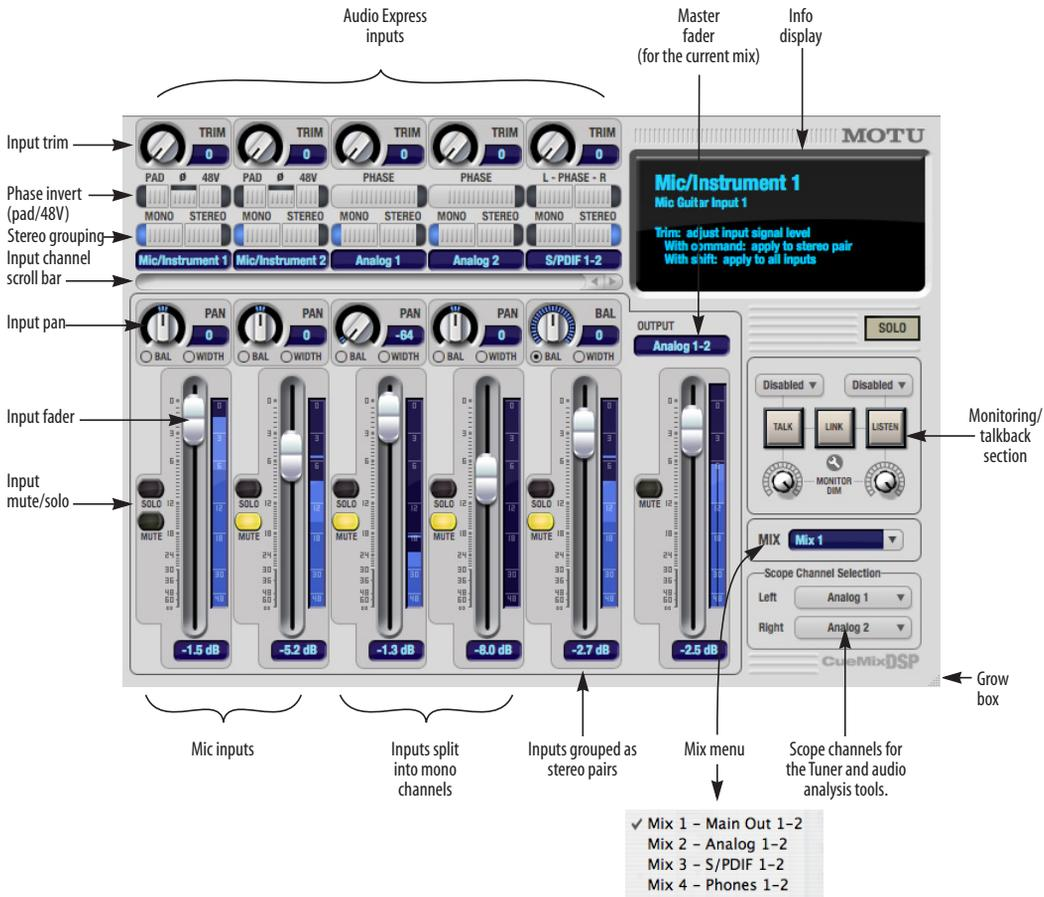

Figure 11-1: CueMix FX is a virtual mixer that gives you control over the Audio Express's on-board mixing features.
CueMix FX displays one mix at a time. To select which mix you are viewing, choose it from the mix menu (Figure 11-1). Click the mix name to change it. The mix output pair appears above the mix master fader (Figure 11-1).
To view more input faders at once, drag the grow box (Figure 11-1) to the right.
To view a mix, choose it from the *Mix* menu (Figure 11-1). The menu shows all mixes by name, followed by the audio interface's output pair that it corresponds to.
The master fader (Figure 11-1) controls the overall level of the mix (its volume on its stereo output). Use the individual input faders to the left to control individual input levels.
The mix mute button (Figure 11-1) disables (silences) the mix.
The *Inputs* section (Figure 11-1) gives you access to individual Audio Express inputs (or input pairs). Unmute the input and bring up its fader to hear the input on the current mix's output. Mute, solo, and pan are also provided for each input channel.
The *Phase* button (Figure 11-1) inverts the phase of the input signal. For stereo pairs, you can invert the phase for the left and right channels independently. For the mic/instrument channels, click the phase button ( $\emptyset$ ) repeatedly to cycle among two states for mono channels (on or off) and four states for stereo grouped channels (no inversion, left only, both, or right only).
Click the *Mono* button (Figure 11-1) if you would like an input to be treated as a mono channel. If you would like to work with it as one channel of a linked stereo pair, click the *Stereo* button. Inputs are grouped in odd/even pairs (Mic/instrument 1-2, Analog 1-2, etc.) Stereo pairs appear as a single channel strip in the CueMix FX mixer.
Click the input name at the top of the input channel strip (Figure 11-1) to edit the name. Input names are global across all mixes. This name also appears in host audio software on the computer (if the software supports channel names).
The pan knob (Figure 11-1) for each input pans the input across the mix's stereo outputs. If the input itself is grouped as a stereo pair, two forms of panning control are provided:
Use the input fader (Figure 11-1) to adjust the level for the input in the mix. Note that an input can have different level, pan, mute and solo settings for each mix. Input channel level meters are post-fader.
The *Scope channel selection* menus (Figure 11-1 on page 58) let you choose what input channels will be fed to the CueMix FX audio analysis (scoping) features. See “Devices menu” on page 63.
- 1 Select the source mix (Figure 11-1) and choose Copy from the Edit menu (or press Command-C).